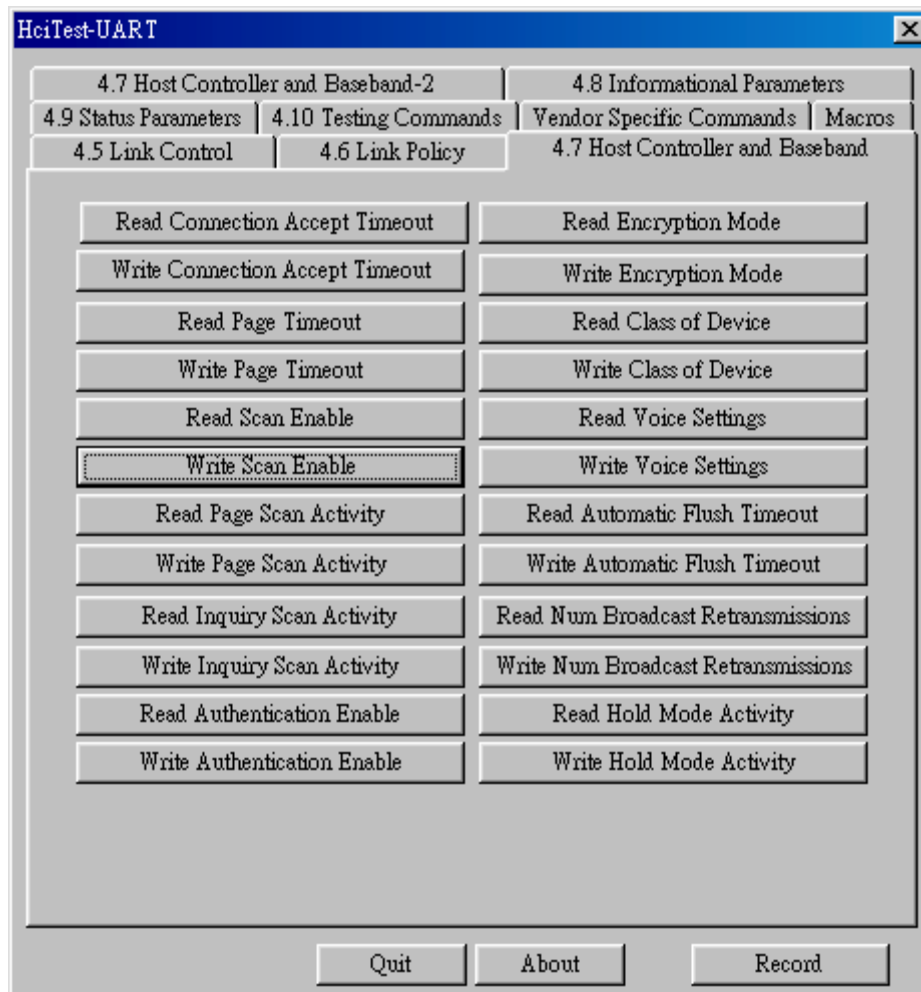
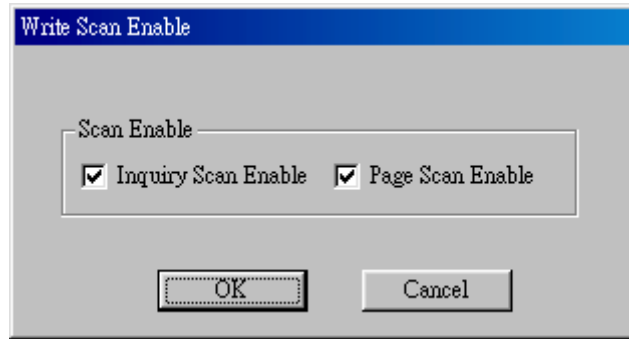
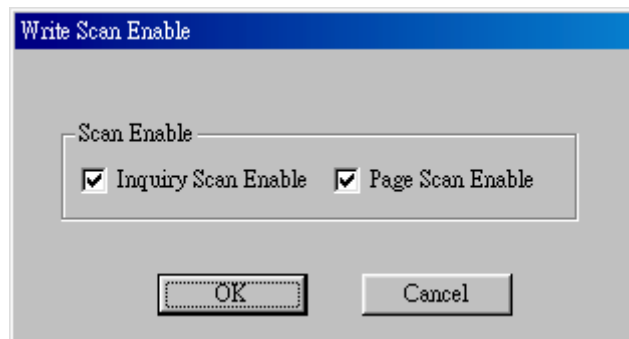

Figure 16: Write Scan Enable
Figure 17: Write Scan Enable Window Appear
Figure 18: Deselect Inquiry Scan Enable
7. On the Slave computer, select “4.7 Host Controller and Baseband” box, then click on the “Write Scan Enable” button. (as Figure 16). A “Write Scan Enable” window will appear (as Figure 17), please deselect *Inquiry Scan Enable* (as Figure 18).